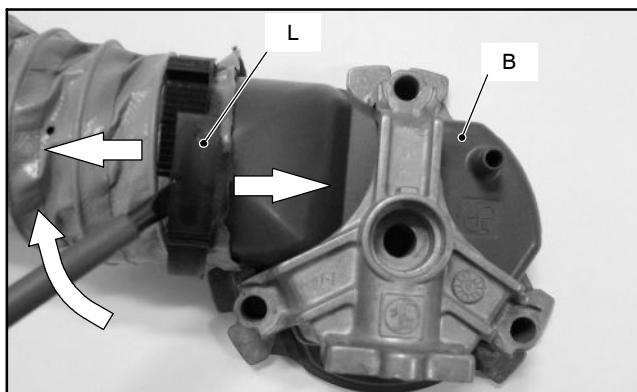

Fig. 17.4
- 12 Open the strip L by sliding the edges with the help of a screwdriver and remove the Air box Fig. 17.4.